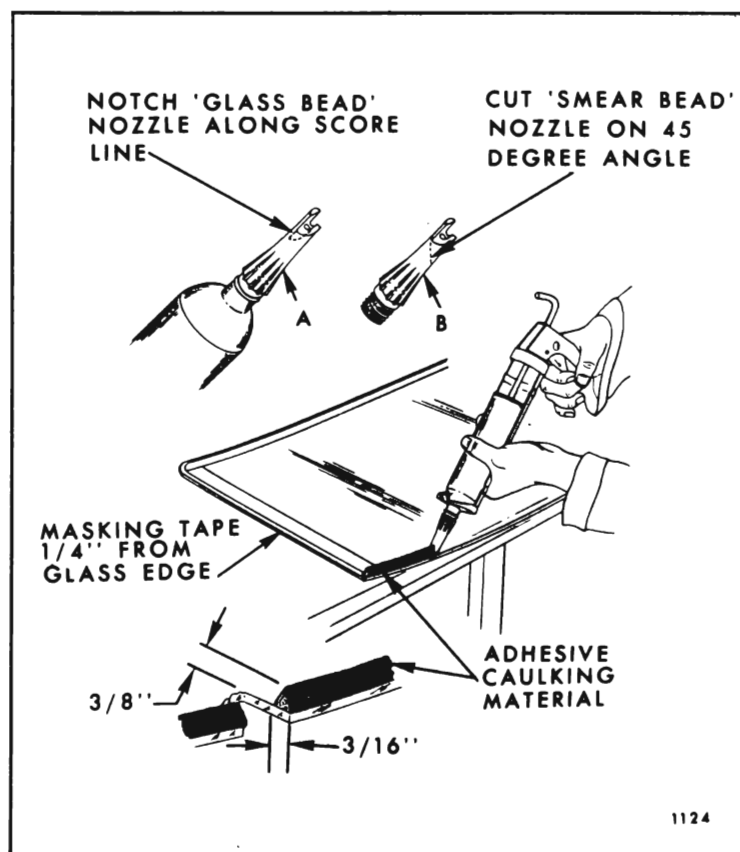

Fig. 9-3—Adhesive Caulking Installation - Extended Method
8. Apply one inch masking tape to inner surface of glass $1/4$ " inboard from outer edge up both sides and across top. Do not apply tape to bottom edge of glass. Instead, apply masking tape over painted feature strip below back window opening. (See Fig. 9-3.)
11. With caulking gun and nozzle positioned as illustrated in Figure 9-3 carefully apply a smooth continuous bead of caulking material $3/8$ " high by $3/16$ " wide at base completely around inside edge of glass.